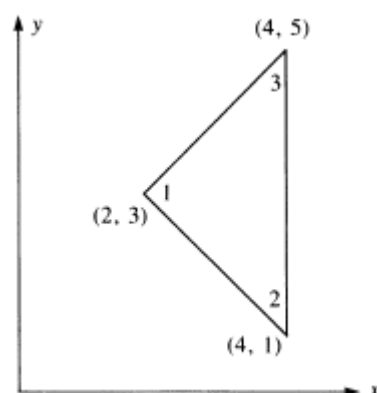

Figure 7
- 5) For the element shown in Figure 7. The coordinates are shown in units of inches. Let $E = 30 \times 10^6$ psi, $\nu = 0.25$, and unit thickness for plane strain. Assume the element nodal displacements have been determined to be $u_1 = 0.001$ in, $v_1 = 0.005$ in., $u_2 = 0.001$ in., $v_2 = 0.0025$, $u_3 = 0.0$, and $v_3 = 0.0025$ in. stiffness matrix and evaluate the principle stresses and principle angle (10)